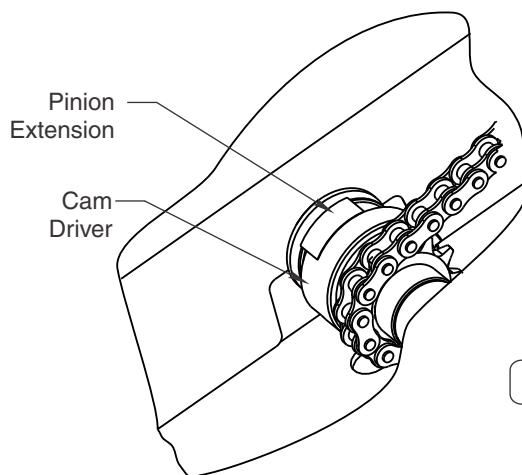

Fig.14
19. Immediately after activating the unit, watch the Cam Driver, fig. 14, as it rotates around. As soon as the Cam Driver contacts the Pinion Extension, flip the circuit breaker switch to the "RESET" position.